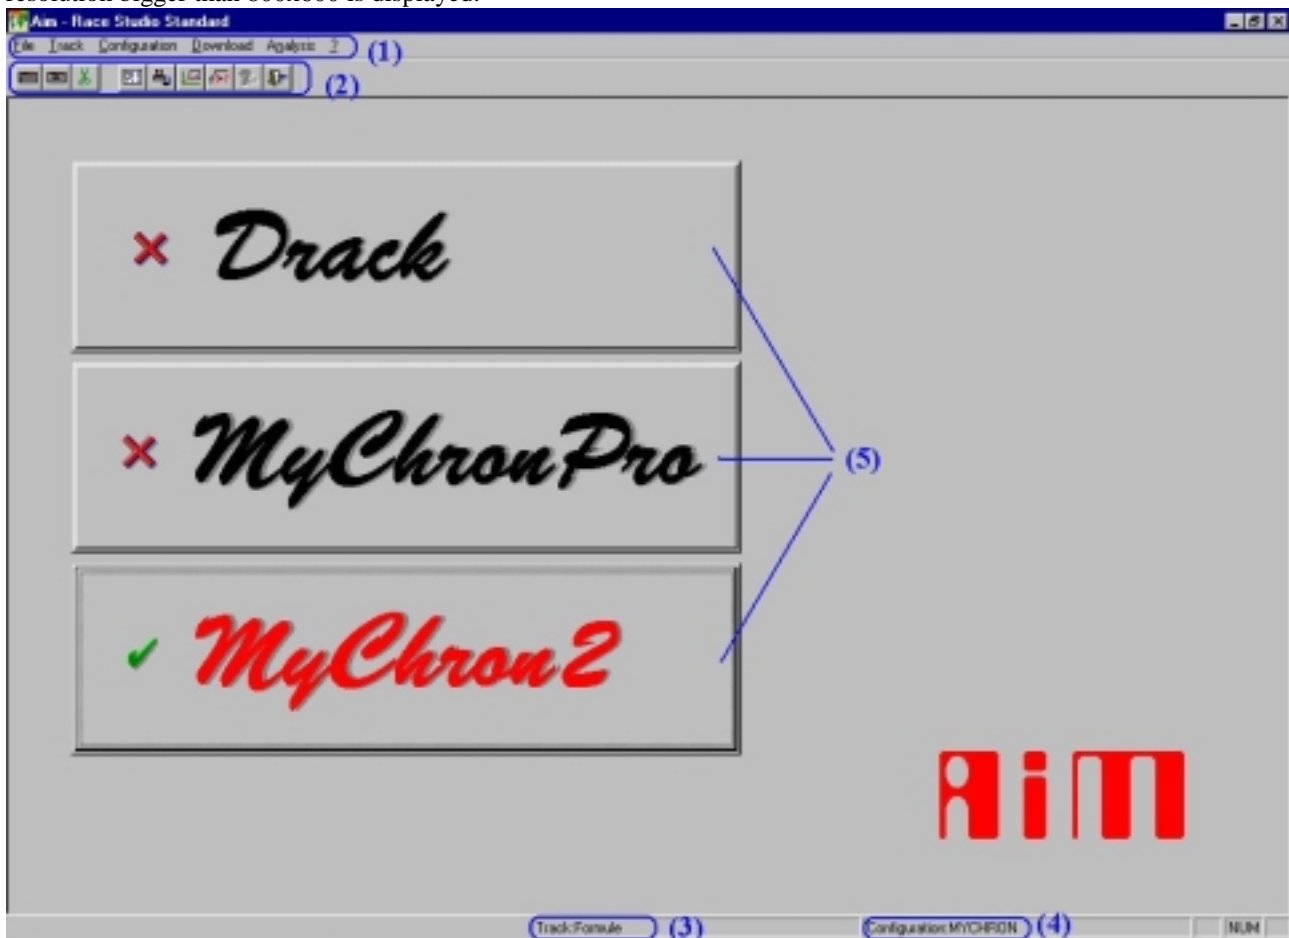

Fig. 2.2 – Main window
The *main window* is the first window shown when the program is run. In Fig. 2.2 the default *main window* for a video resolution bigger than 800x600 is displayed.
- (1) – The menu includes the main commands of the program.
- (2) – The toolbar of the window includes some shortcuts to the most important functions.
- (3) – The name of the active Track shown on the status bar.
- (4) – The name of the active Configuration shown on the status bar.
- (5) – The three “big” buttons for the selection of the connected device, in Fig. 2.2 the MyChron2 is the selected device.